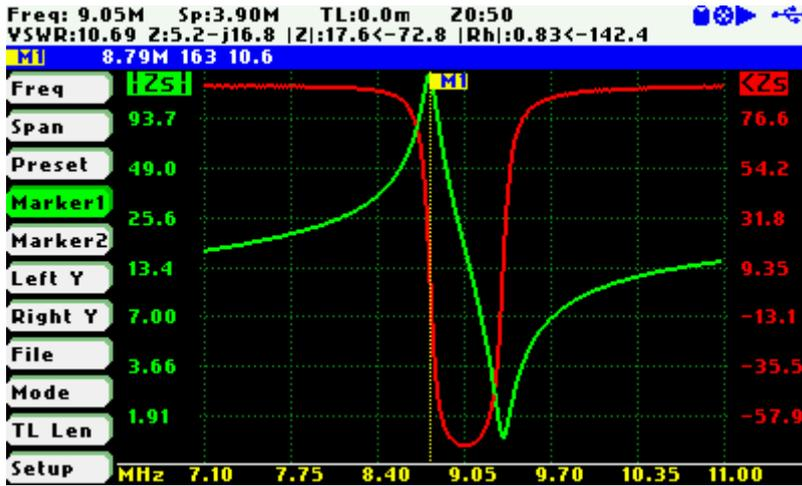

Figure 3
- Step 9. Change the frequency and span in order to have better visibility of the resonant point. Move the marker to the peak. (Figure 3)